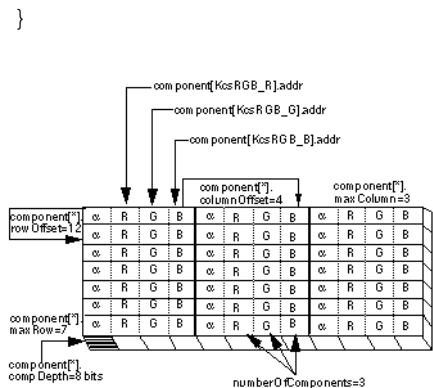

FIGURE 3-1 24-bit Color Component-Interleaved Data for RGB Pixel Image
- *Component-interleaved* data — Color components of a pixel (for example, the red, green, and blue channels of an RGB image) are stored in consecutive memory addresses. (This is also called pixel-interleaved data.) See Figure 3-1 for a detailed